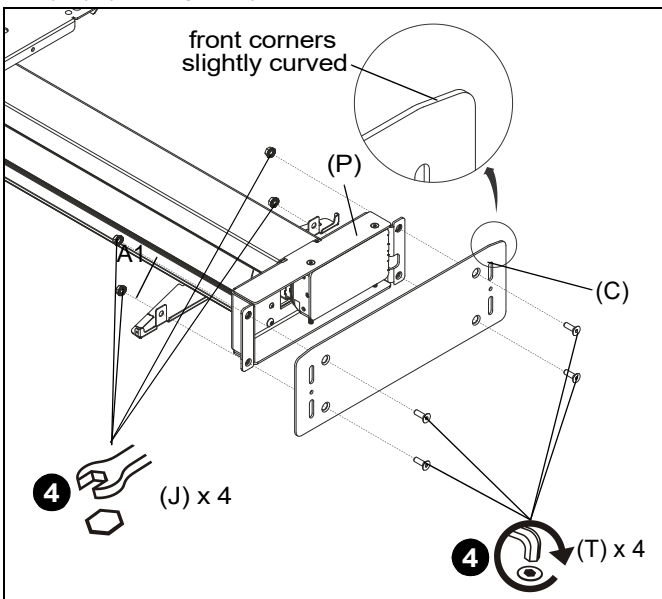

Figure 2
4. Use four 5/16-18 x 1" flat head cap screws (T) button head cap screws (K) and four 5/16-18" hex nuts (J) to secure floor plate (C) to column assembly (P) and bottom back cover (A1). (See Figure 2)